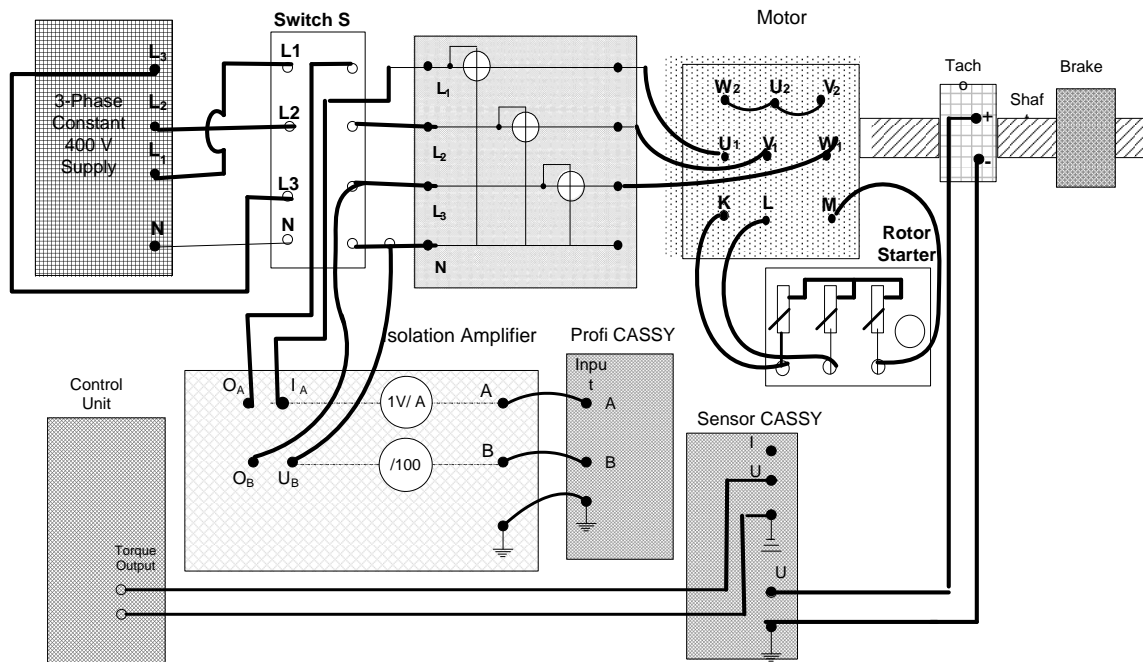

Figure 4: Wiring diagram
1. Connect the circuit as shown in the wiring diagram of Figure 4. **Make sure that switch "S" is at "OFF" position.**